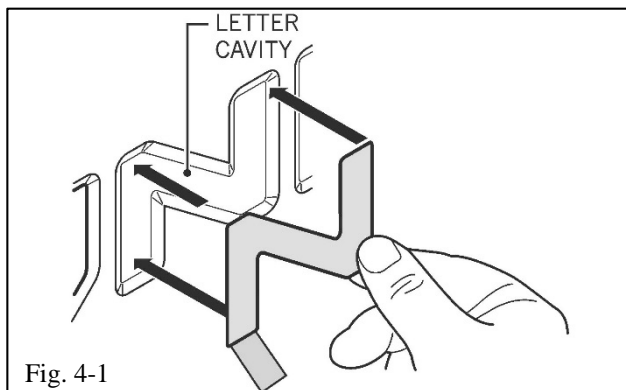

Fig. 4-1
- (a) Center the letter N inside of the corresponding cavity in the rear tailgate to confirm fit (Fig. 4-1).